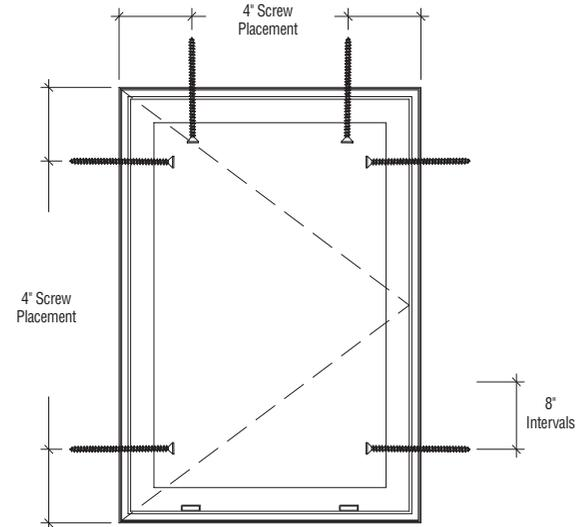

fig. 19
e. Quantity of screws are determined by the size of the window. Place four screws within 4" of each corner on the jamb sides and then space the screws approximately 8" to 12" apart on the remainder of the jamb. For the head use 2 screws four inches from the corner. (**fig. 19**)
- Fasten the Awning window through the main frame (**fig. 19 & 20**) with #8 x 2-1/2" Pan head screws. Quantity of screws are determined by the size of the window.